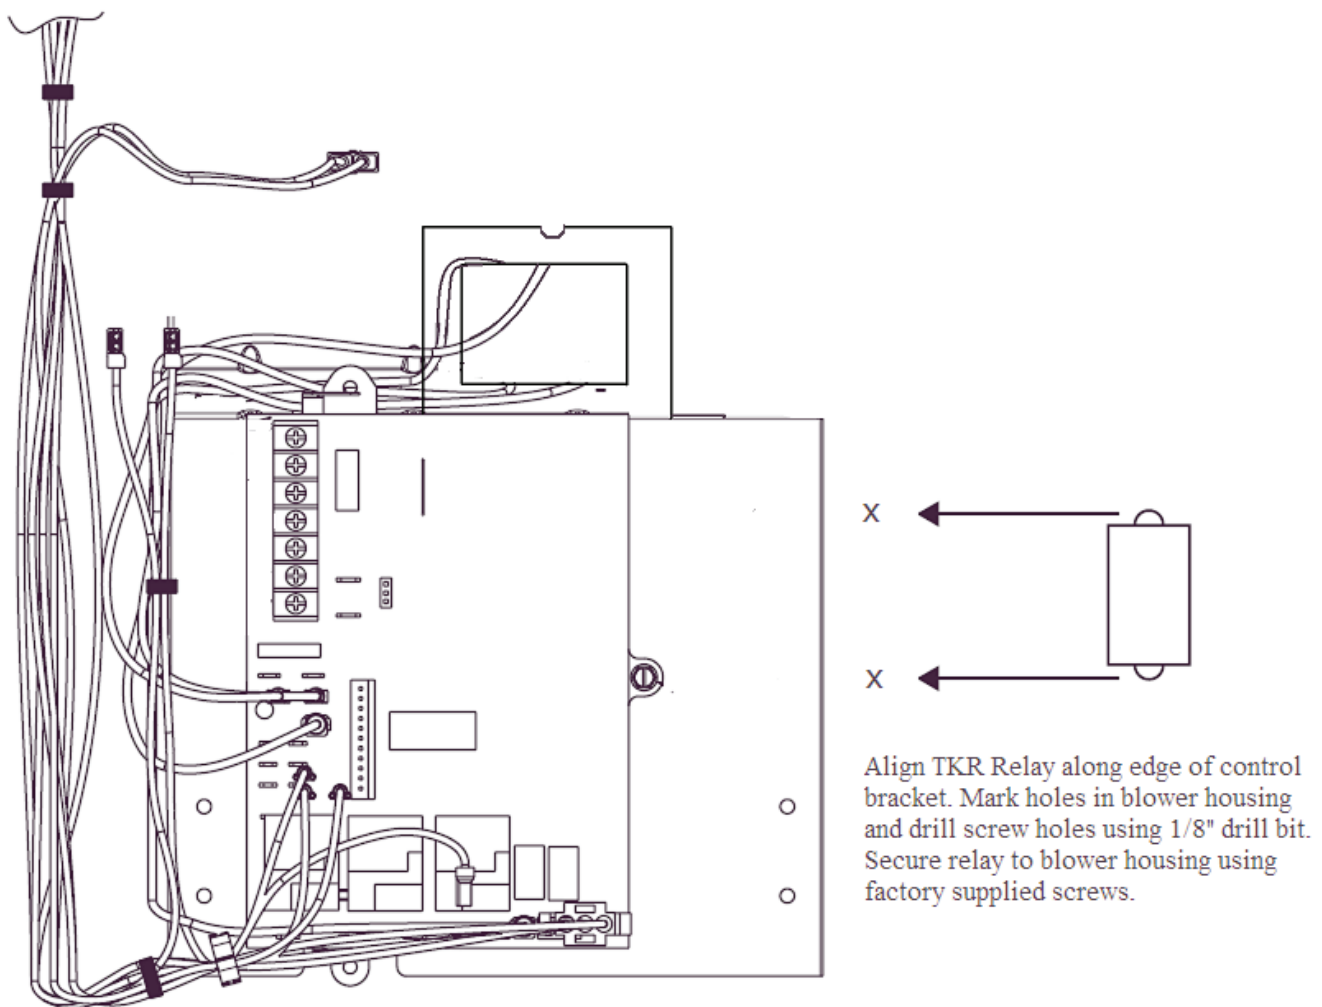

Fig. 12 - TKR Relay Secured with Factory-Supplied Screws
- a. Secure relay of TKR harness assembly to LH furnace blower housing using 2 factory-supplied screws. (See Fig. 12.)